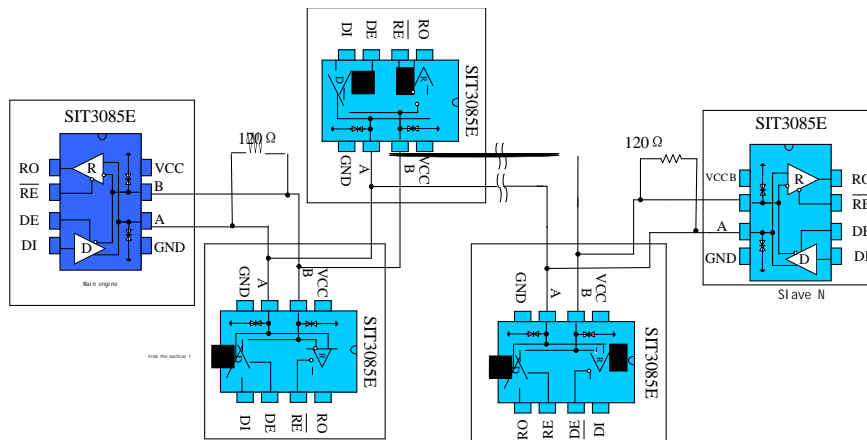

Figure 12 Hand-in-hand RS485 half-duplex communication network
5.2 Hand-in-hand networking: Also known as the daisy chain topology, it is the standard and specification for RS485 bus cabling, recommended by organizations such as TIA for RS485 bus topology. The wiring method involves forming a hand-in-hand connection between the master control device and multiple slave devices, as shown in Figure 12. This method does not leave any branches, which is what defines a hand-in-hand connection. This wiring method has advantages such as minimal signal reflection and high communication success rates.